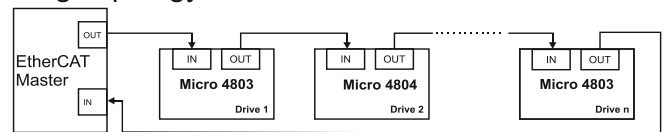

Figure 3-73 EtherCAT network ring topology
- *Figure 3-73* for a visual representation of the ring topology.